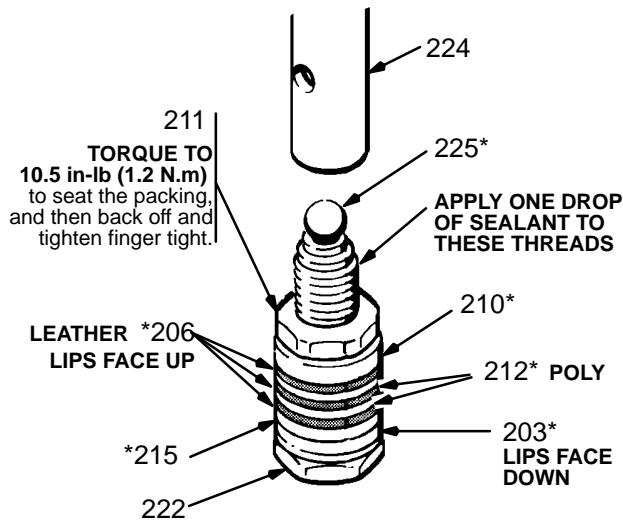

Fig 35-1
7. Clamp the flats of the piston rod in a vise. Loosen the retaining nut (211). Unscrew the piston valve (222) from the rod. Remove all parts from the piston valve (222). Refer to Fig 35-1.
**NOTE:** Alternate leather and plastic packings as shown in Fig 35-1. The lips of the throat "V" packings must face down, against pressure. The lips of the piston "V" packings must face up, against pressure. The lips of the U-cup seal (3) face down. Incorrect installation damages the packings and results in pump leaking.
1. Check the outside of the piston rod (224) and the inside of the sleeve (218) for scoring or scratches. If these parts are damaged, new packings will not seal properly. Replace these parts if needed.
2. Stack the backup washer (214), seal (203\*), female gland (215\*), alternate the packings (212\*, 206\*), and then male gland (210\*) onto the piston valve (222). Refer to Fig 35-1.
- Tighten the packing retaining nut (211) onto the piston valve (222) to 19 ft-lb (27 N.m).
**Note the alignment** of the piston (222) to the packing retainer nut (211). Maintain this alignment through Steps 5, 6 and 7.
- Place the ball (225) on the piston valve (222). Refer to Fig 35-1.
- Apply one drop of adhesive, supplied, to the threads of the piston valve. Then hand tighten the valve assembly into the piston rod just until the nut (211) contacts the rod. Refer to Fig 35-1.